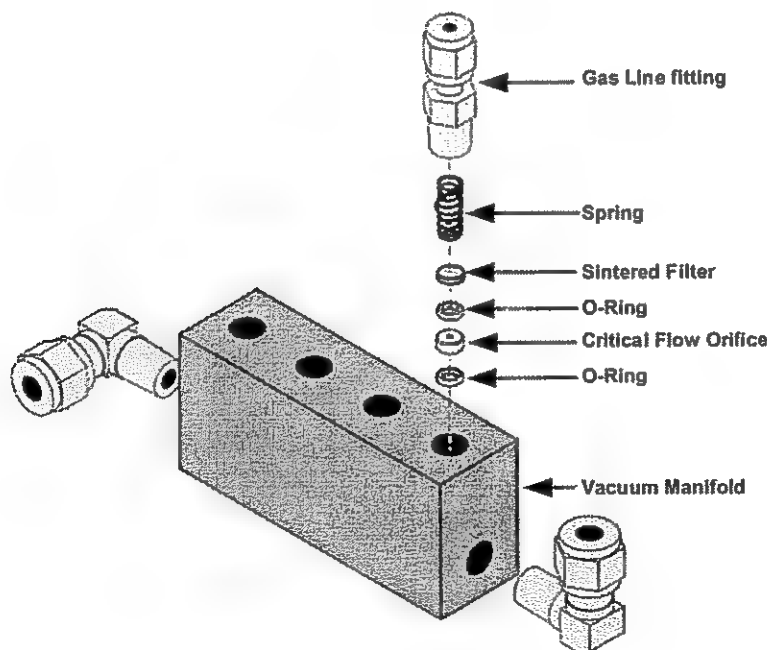

Figure 9-2: Critical Flow Orifice Assembly
9. Re-assemble the parts as shown in Figure 9-2 using a new filter and o-rings